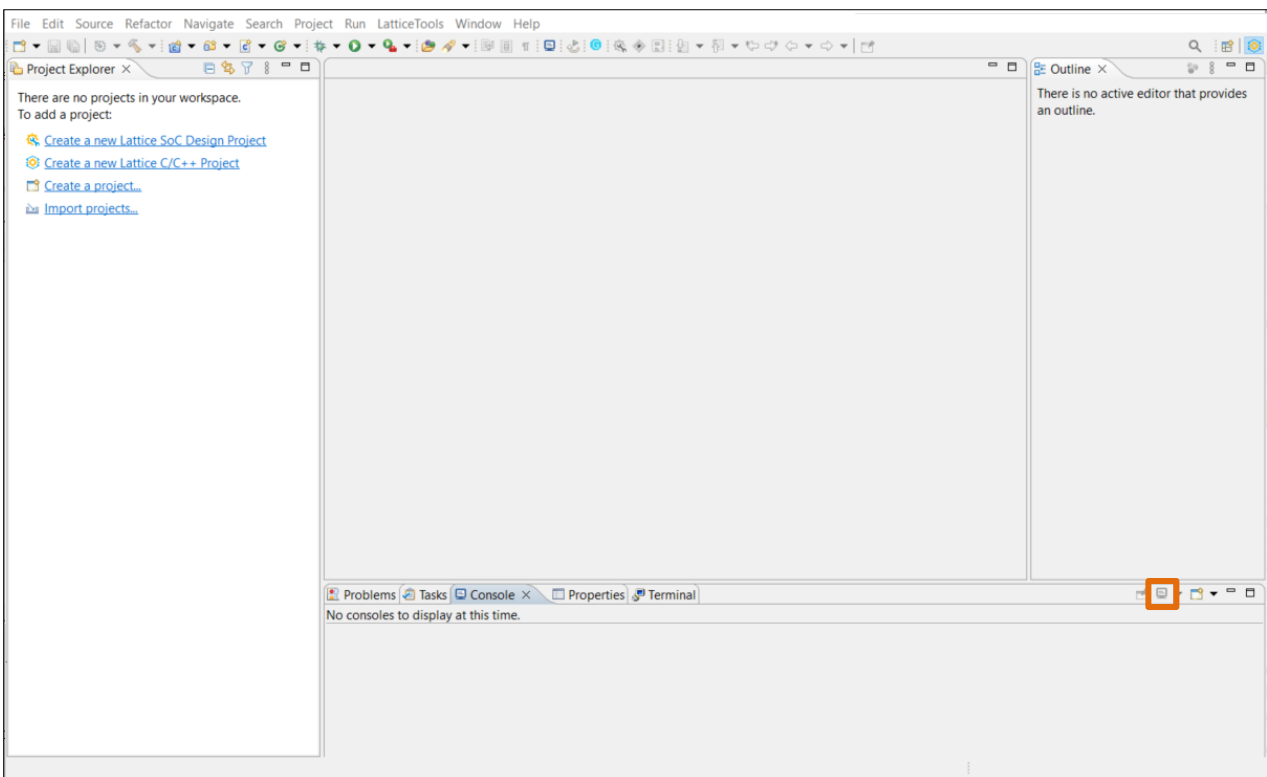

Figure 6.3. UART Terminal Icon on Propel SDK Window
3. Double-click on the terminal icon shown in Figure 6.3.